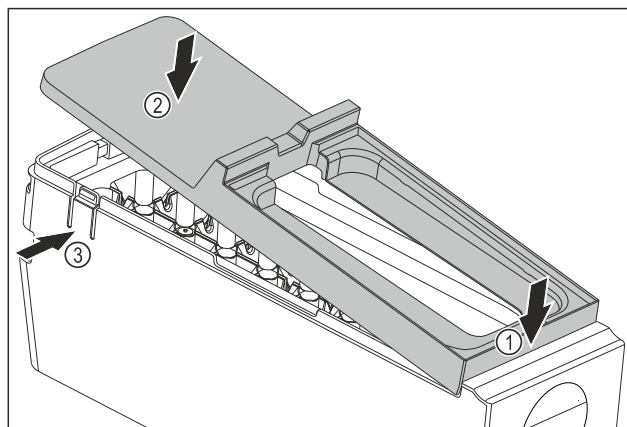

Fig. 148
- Installing the EasyTwist-Ice body cover: Place the cover on the front. Fig. 148 (1)
- Lower the cover at the rear. Fig. 148 (2)
- ▷ The cover locks into both tabs Fig. 148 (3) audibly.